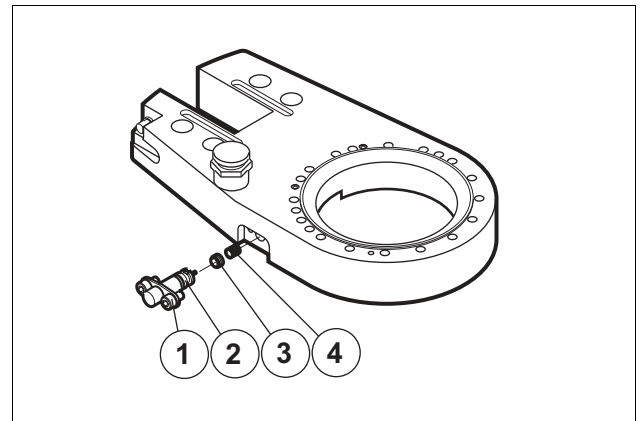

Fig. 27 Replacing check valve - Saw activated tensioning
2. Loosen the fasteners (1) and pull out the Pilot Valve (2) *See Fig. 27.*
3. Remove the check valve (2) by using the installation tool, P/N 0690149. *See Technical data*
4. Remove the spring (4). *See Fig. 27.*